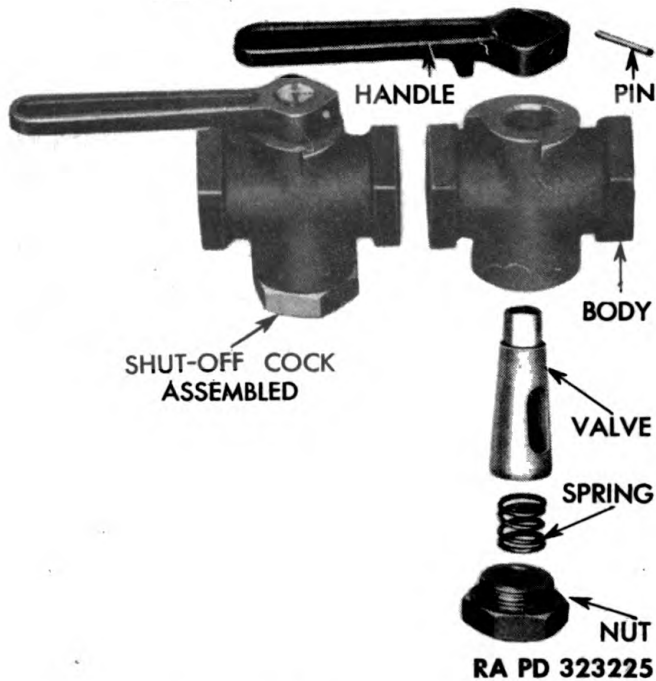

Figure 231 — Shut-off Cock Assembled and Disassembled
a. Description (fig. 231). Shut-off cocks are used in the service coupler line, the emergency coupler line at the rear of the tractor, and in the emergency coupler line at the front of the tractor. These shut-off cocks provide a method of closing off the air lines when they are not in use. The shut-off cock consists of a brass body which is threaded at two ends for attaching to pipes. In the center is a tapered valve which is ground to fit the body to prevent air leakage. A compression spring holds the tapered valve tight on the tapered bore in the body. A passage is provided through the tapered valve, so that when the cock is turned to the closed position, the air is prevented from flowing through. The shut-off cock is closed when the handle is parallel with the body, and open when handle is at a 90-degree angle with body. Stops are provided to prevent the handle being turned beyond its normal open and closed positions. A groove across the top of the valve indicates the direction of the passage in the valve.
b. Disassemble (fig. 231).
d. Assemble (fig. 231).